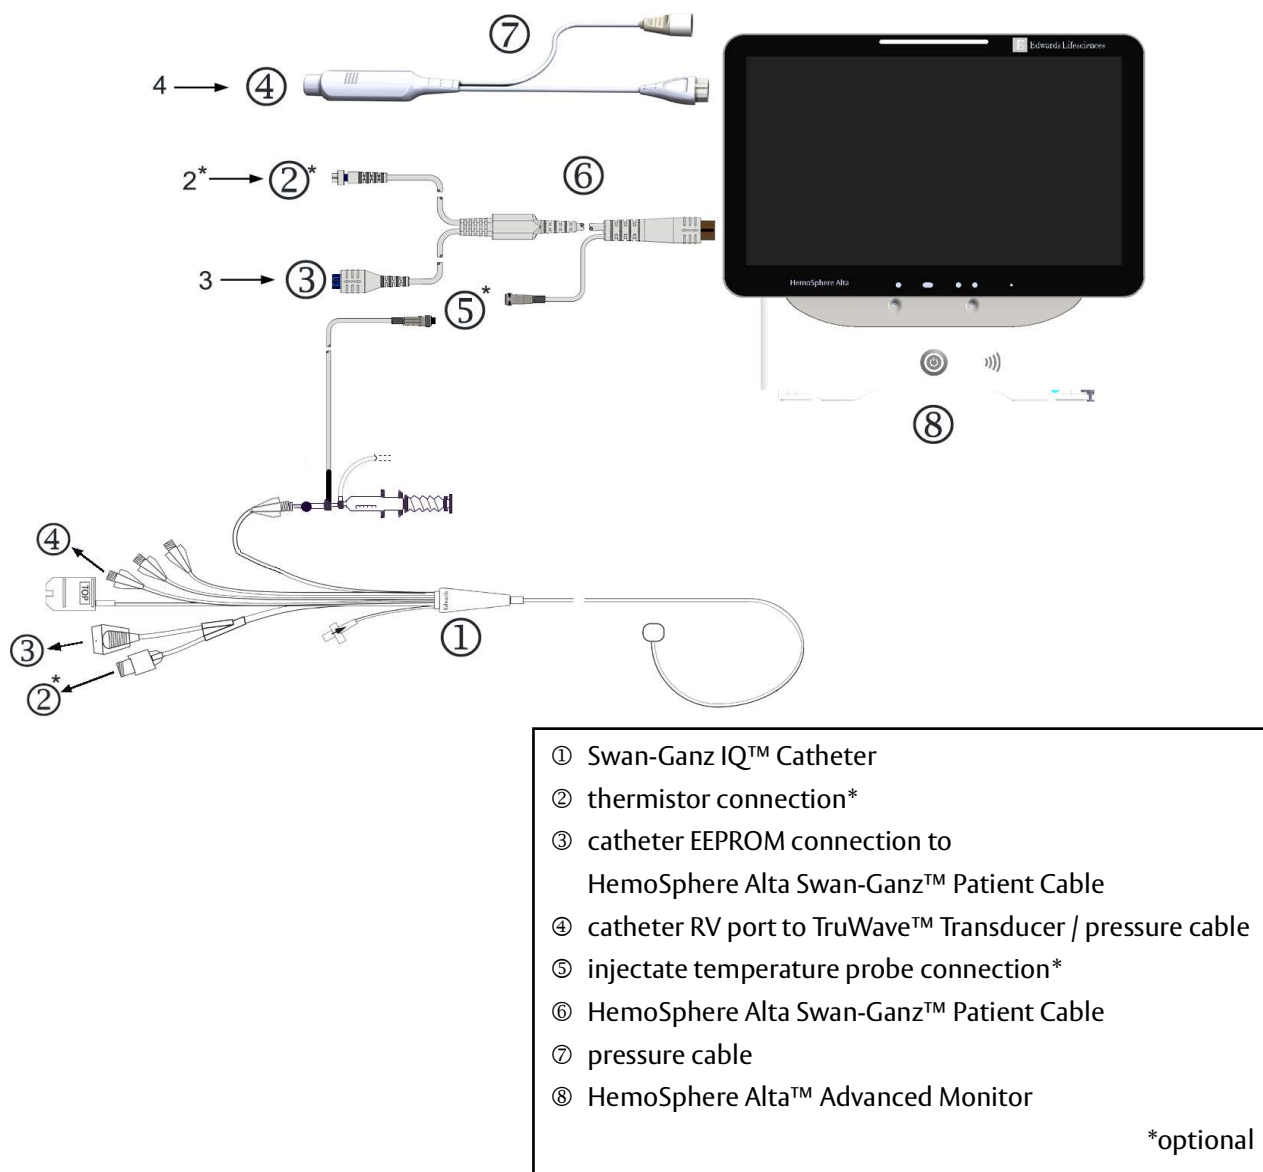

Figure 13-16 Swan-Ganz IQ™ Catheter connection overview
- 2 Connect EEPROM connector of the catheter to the thermal filament connection of the HemoSphere Alta Swan-Ganz™ Patient Cable (as shown by ③ in figure 13-16).
- 3 Connect the RV port of the Swan-Ganz IQ™ Catheter to TruWave™ Transducer and pressure cable (as shown by ④ in figure 13-16). See *Pressure Cable Monitoring with a TruWave pressure transducer (DPT)* on page 165.
- 4 (Optional for iCO thermodilution): Attach the catheter end of the patient cable to the thermistor connector on the Swan-Ganz IQ™ Catheter as shown by ② in figure 13-16.
- 5 (Optional for iCO thermodilution): Connect the injectate temperature probe (in-line or bath) to the injectate temperature probe connector on the patient CCO cable illustrated by ⑤ in figure 13-16.